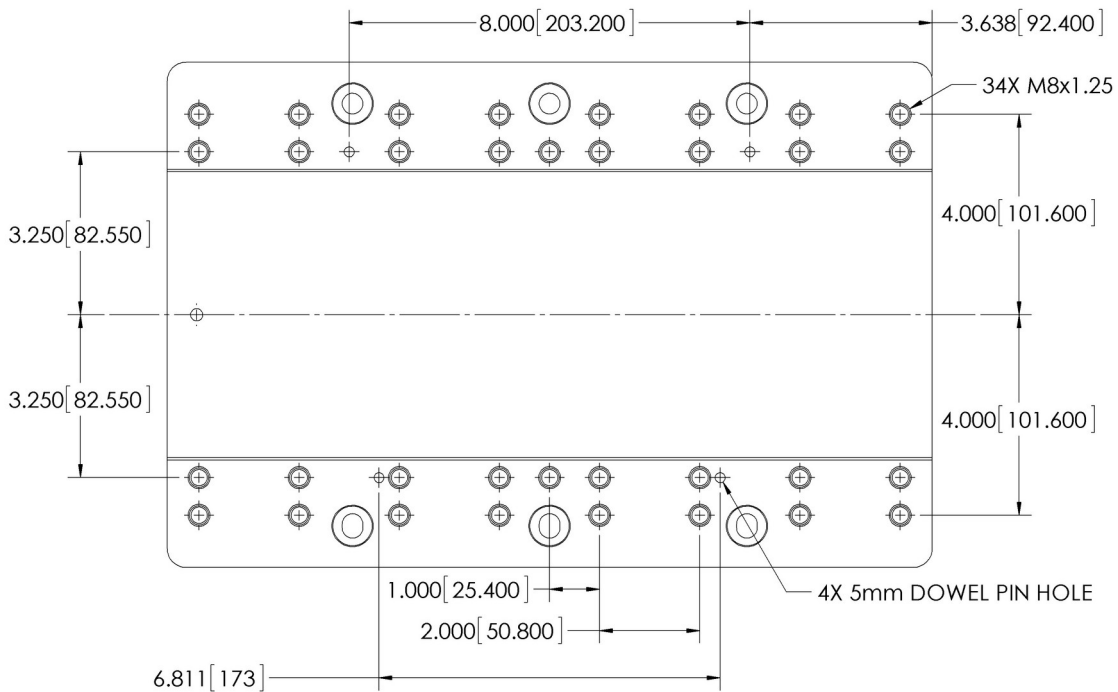

Figure 1: Carriage bolt hole pattern
The bolt pattern on the Carriage has been designed to facilitate process equipment installation. The Carriage has (34) thirty-four M8x1.25 mounting holes with a depth of 0.47 inch (12 mm) to provide secure attachment points. The mounting holes are spaced 8 inches (127 mm) across and on 2 inch (25.4 mm) centers along the length of the Carriage. (See Figure 1) The Carriage also has (4) four 5mm dowel pin holes to facilitate alignment. (See Figure 1 for location) These dowel pin holes are oversized to allow the pins to be glued into place using Loctite 609, or equivalent. **Only utilize 4 of the M6x1 mounting holes; using more than 4 may cause warping of the carriage.**